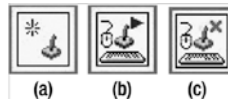

Figure 10-18. (a) *The Initialize Joystick Function*, (b) *the Acquire Input Data Function*, and (c) *the Close Input Device Function*
- **Initialize Joystick:** This function starts the communication between the computer and the joystick that you selected with the device index (see Figure 10-18(a)).
- **Acquire Input Data:** This function gets the data from the joystick device, such as button information and axis information (see Figure 10-18(b)).
- **Close Input Device:** This function closes out the input device session (see Figure 10-18(c)).